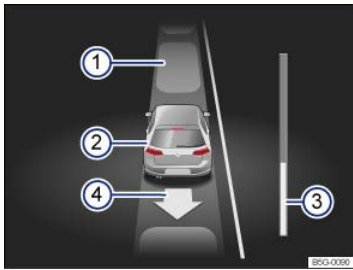

Fig. 181 In the instrument cluster display: Driving out of a parallel parking space.
Key to ⇒ *Fig. 181* :
The progress bar ⇒ Fig. 181 ③ displays the distance left to be traveled ⇒ Progress bar.